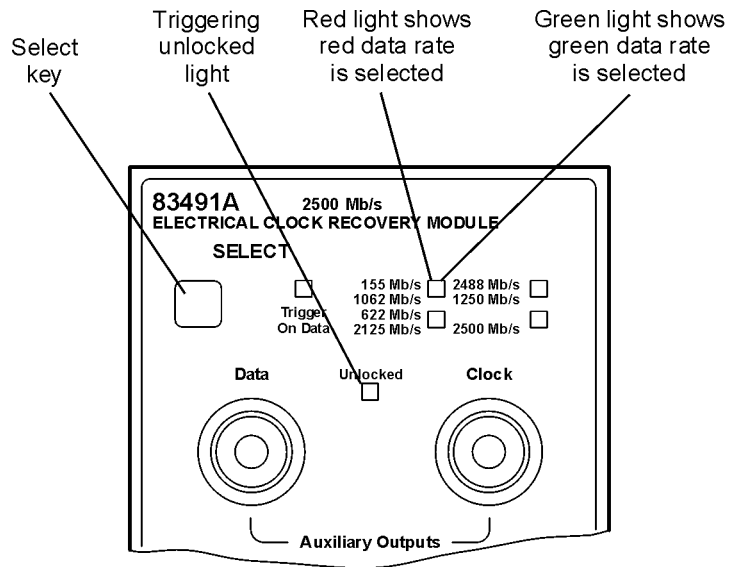

Figure 1-4. Front-panel lights
- 8 On the Agilent 83491/2/3A module, repeatedly press the SELECT key until a front-panel light indicates the data rate of the signal. See Figure 1-4 on page 1-6.